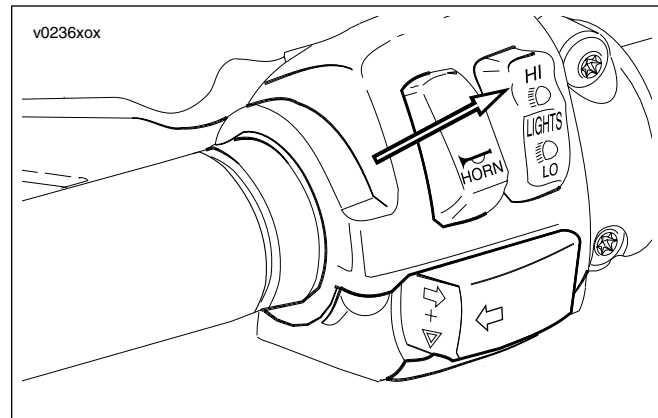

Figure 1-101. Headlamp Switch
6. See Figure 1-101. Turn ignition switch ON. Set handlebar headlamp switch to HI beam position.